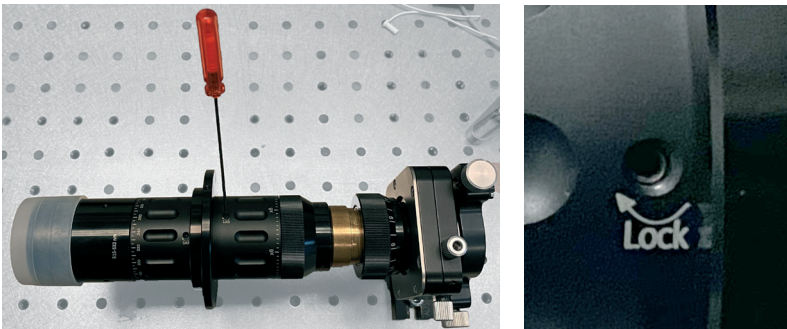

Figure 13. Unlocking expansion and focusing regulators.
2. Place the VBE into the 4-axis mount and unlock expansion and focusing cylinders (release six 1.3 mm hex screws) (fig. 13).